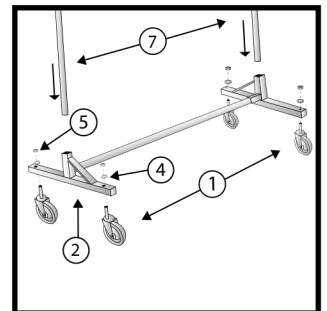

Figure 2
2. Insert casters (1) into H frame (2), and tighten with 7/16" lock washer (4) and 7/16" hex nut (5). (Figure 2)
3. Insert upright bars (7) into frame (2). (Figure 2)